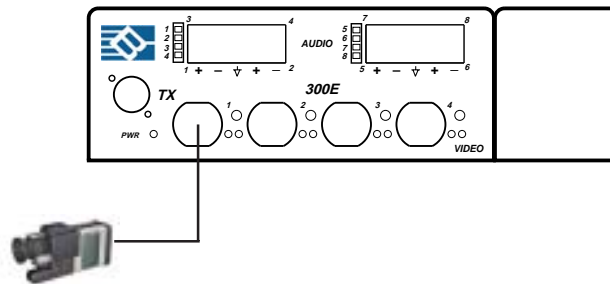

Figure 2-5
1. At the near end, on the transmitter unit, connect the user's video sources to the video-input ports of the 300E unit. Also, connect the user's video receivers to the video output ports of the 300E-receiver unit. (See Figure 2-5).